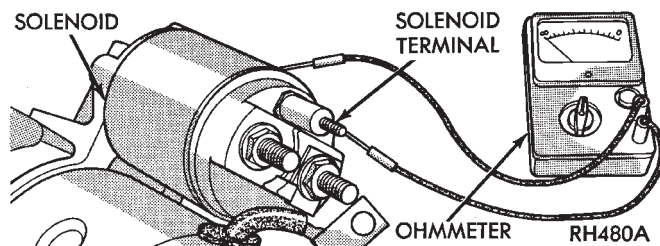

Fig. 8 Continuity Test Between Solenoid Terminal and Solenoid Case
(3) Check for continuity between the solenoid terminal and the solenoid case (Fig. 8). There should be continuity. If OK, go to Step 4. If not OK, replace the faulty starter assembly.